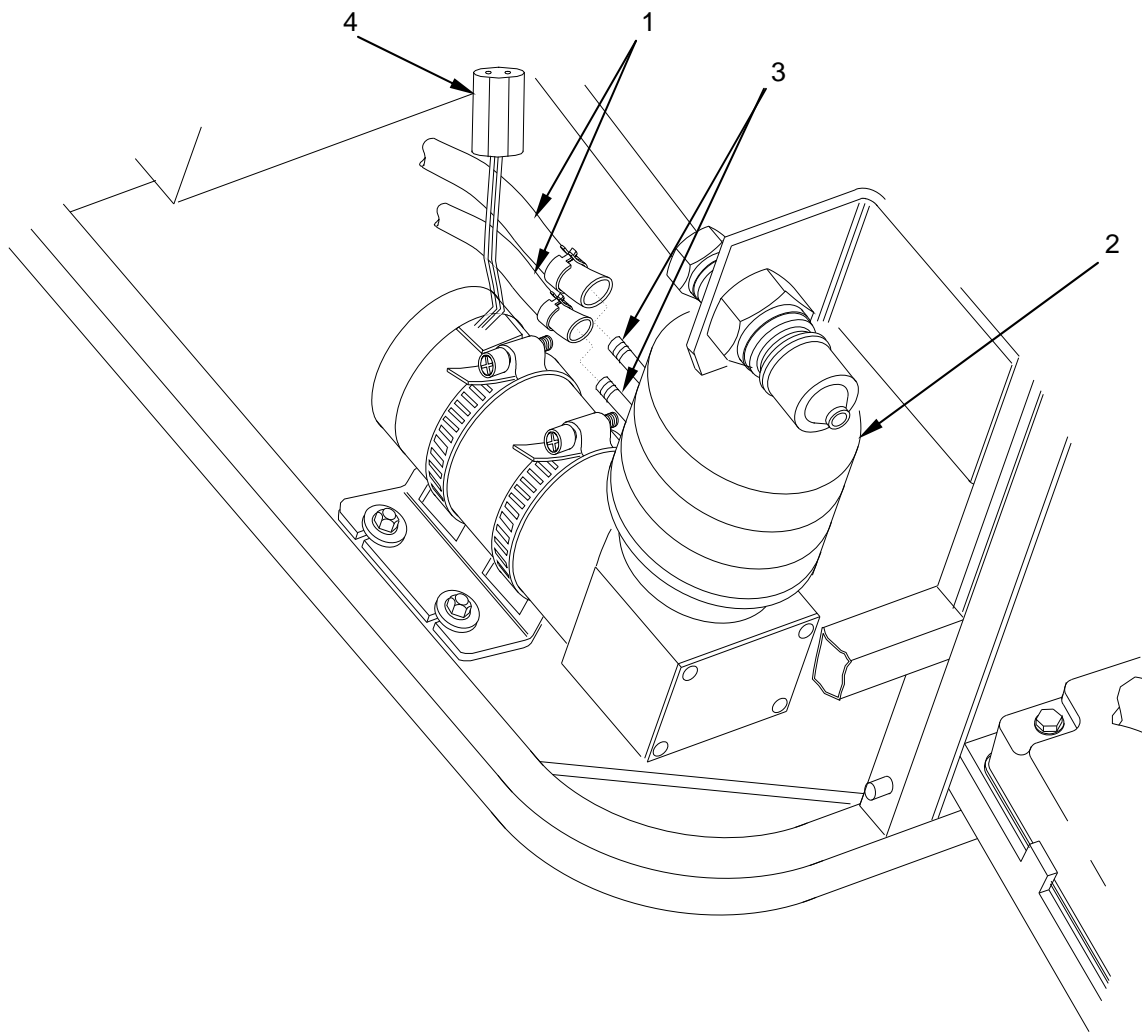

Figure 2. Test the Compressor Assembly.
2. Disconnect air lines (Figure 2, Item 1) from compressor (Figure 2, Item 2) by compressing the spring clips with a pair of pliers.
3. Connect power to the MBU and press FUEL. The compressor (Figure 2, Item 2) should start, and air should discharge from the compressor air line fittings (Figure 2, Item 3).
4. If air discharges from the compressor air line fittings (Figure 2, Item 3), reconnect the air lines (Figure 2, Item 1) and reassemble the Reflective Heat Shield and Burner Assembly.
5. If the compressor (Figure 2, Item 2) does not start, listen for indications of a locked or damaged compressor, such as a loud humming sound, or uneven or unusually noisy operation. If these indications are present, the compressor must be replaced.
6. If the compressor (Figure 2, Item 2) does not start and there are no indications of mechanical damage to the compressor, disconnect the compressor power wire harness connector (Figure 2, Item 4).